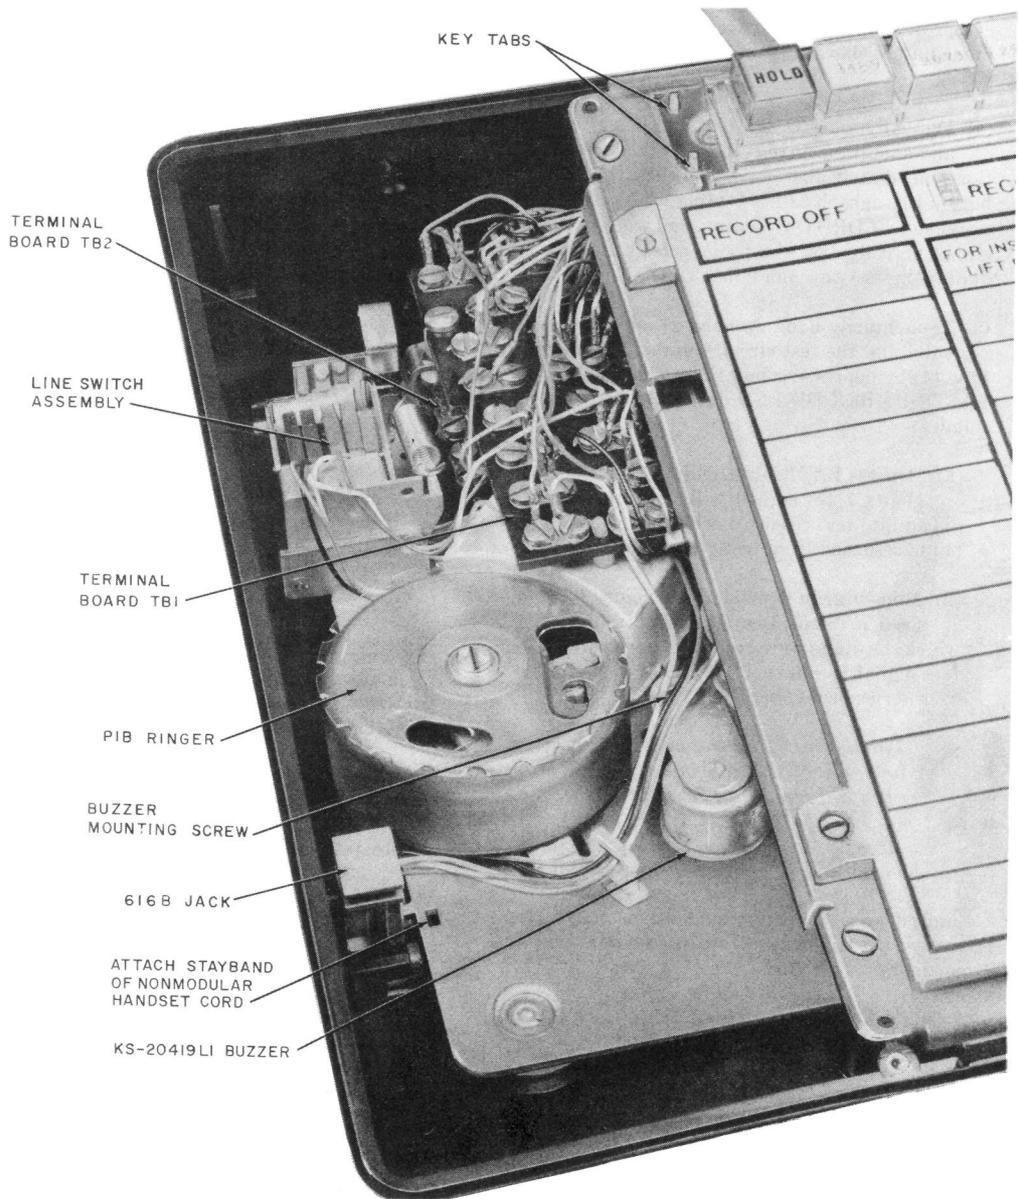

Fig. 3—2872A2M Telephone Set With Faceplate, Handset, Handset Cradle, and Upper Housing Removed
- (1) The following are located under the handset cradle (Fig. 3):